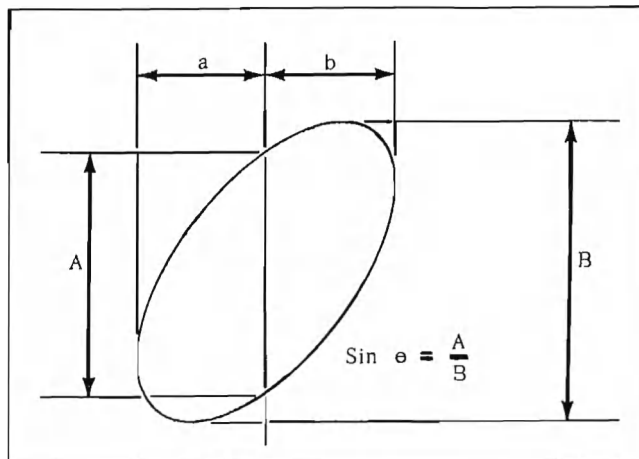

Fig. 3-6. A typical ellipse.
3. Adjust the plug-in unit VOLTS/CM controls until you get a suitable ellipse on the oscilloscope screen. The height of the ellipse is not critical; use any convenient height within the graticule area. Above 10 mc, the size of the ellipse will have to be reduced to prevent distortion due to overloading of the deflection systems. Fig. 3-6 shows the elliptical pattern displayed for a phase angle of 45 degrees. The procedure for measuring the phase angle is independent of the shape of the ellipse.
4. Use the POSITION control of the plug-in unit in the HORIZONTAL channel to center the ellipse about a vertical graticule line. Make the dimensions  $a$  and  $b$ , shown in Fig. 3-6, equal to each other. Within reasonable limits, the specific value chosen for the dimensions  $a$  and  $b$  does not affect the accuracy of the measurements.
5. Measure the dimensions  $A$  and  $B$  as shown in Fig. 3-6.
6. Using the formula shown in Fig. 3-6 calculate the sine of the desired phase angle  $\theta$ . Determine the angle  $\theta$  from your slide rule or a trigonometric table of sines.